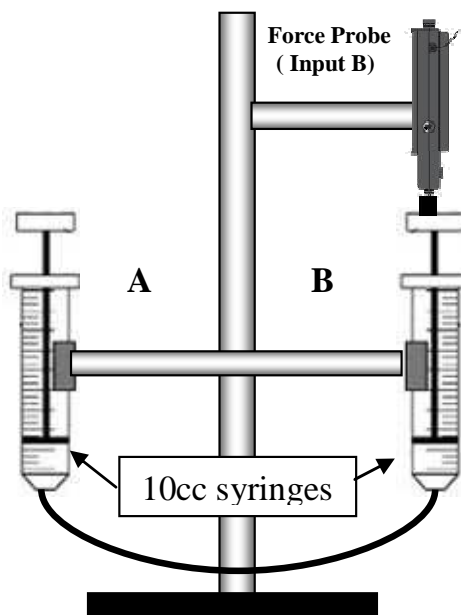

Fig. 6: Hydraulic Syringe Apparatus
1. Disconnect the tubing from syringe B and replace it with the second 10 cc syringe. Set up the apparatus shown in Fig. 6. Syringe B now has a piston with a force probe above it. You will need the second force probe as well. The probes should already be inserted into inputs A and B on the PASCO interface. Make sure that the probe above the right syringe is plugged into input B. Adjust force probe B so that as you lift piston B, it touches the force probe when the syringe reads about 2 cc. Before reconnecting the tubing between the syringes, make sure the two pistons are sliding freely. When